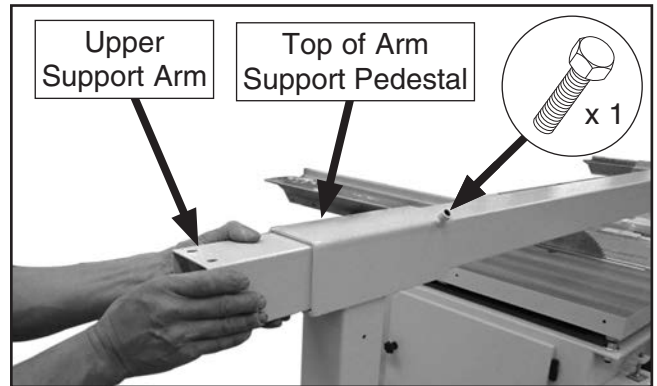

Figure 55. Installing upper support-arm.
- 54. Insert upper support arm through top of arm-support pedestal, as shown in **Figure 55**.
- 55. Install (1) M10-1.5 x 30 hex bolt into location shown in **Figure 55**. Do not tighten yet.